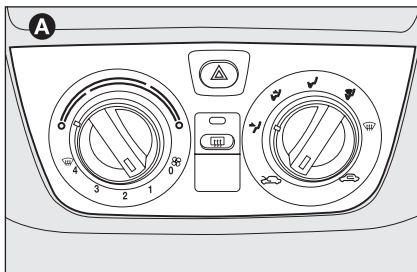

fig. 5
- with heater **A**-**fig. 5**;